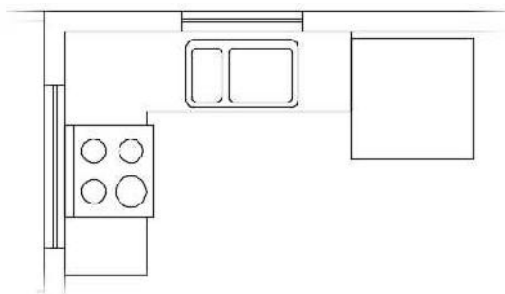

FIGURE 7.48: Zooming in to see the revised window blocks with double-glazing
7. Zoom in to a closer look at the kitchen in order to view some of the modified window block references (see Figure 7.48).